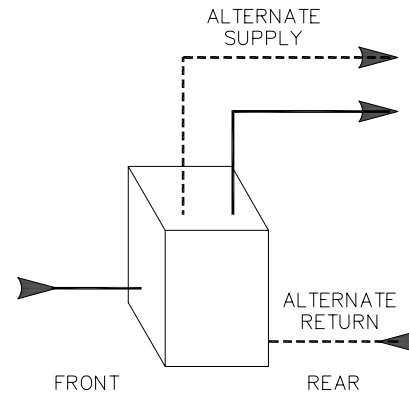

Figure 3.5: Water Boiler Piping
3. Pipe the supply and return in one of two ways as shown in Figure 3.5: